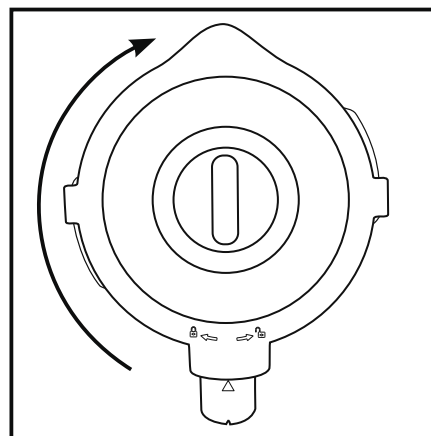

Fig. 2
- 4) Press the lid **2** firmly down onto the blender **3**. Close the lid **2** by turning it clockwise to position  until it audibly engages (see Fig. 2). Ensure that the pouring spout on the blender **3** is closed.